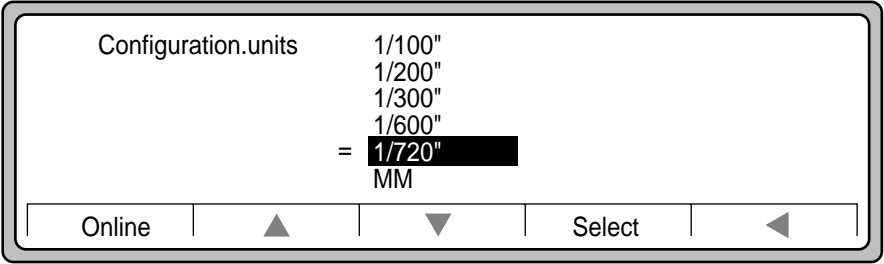

Figure 3-19 Unit size selections
10. Press ▲ or ▼ to select your unit size selections (Figure 3-19).